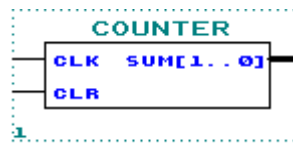

Figure 5-7.
- Remember to use the same input and output port names as shown in Figure 5-7.